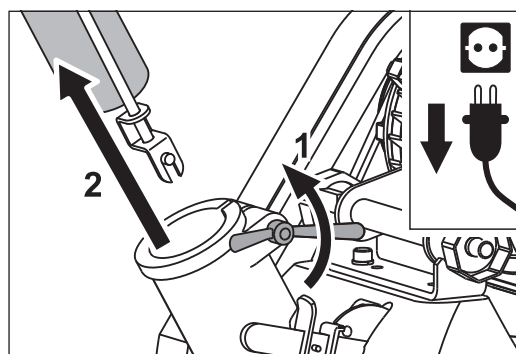

Fig. 31 Open the wing nut (1) and pull the guide tube out of the machine housing (2).
- 12 Open the wing nut at the machine housing (Fig. 31, 1) and pull the guide tube out of the machine housing (Fig. 31, 2).